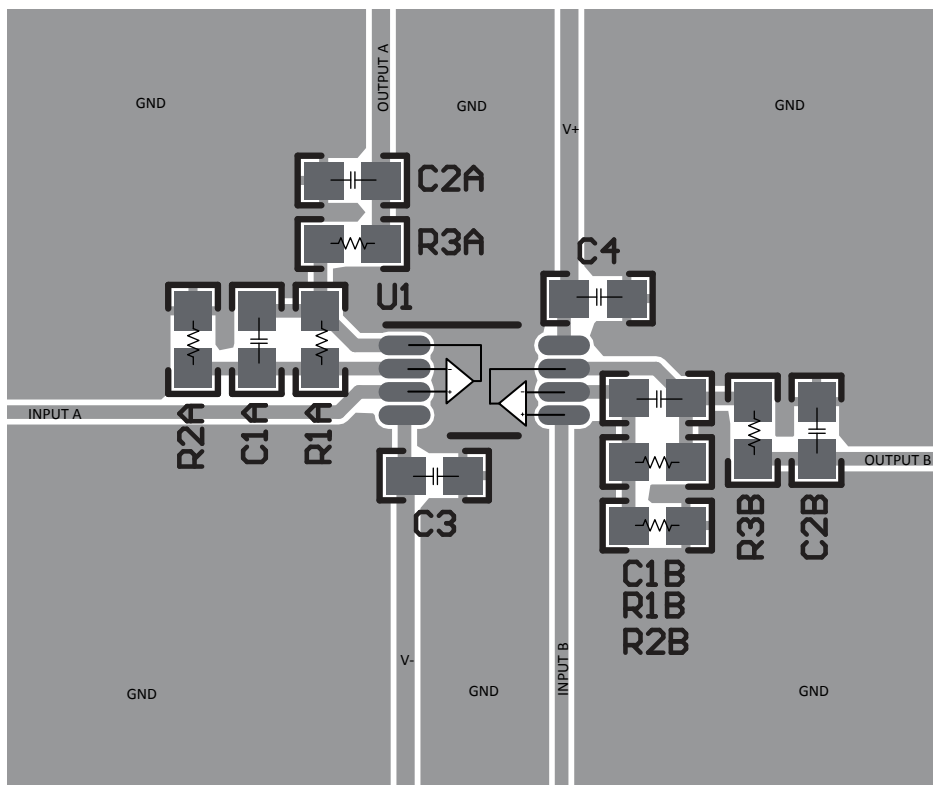

Figure 7-5. Example Layout for TLV9142
- Place the external components as close to the device as possible. As shown in Figure 7-5, keeping RF and RG close to the inverting input minimizes parasitic capacitance.